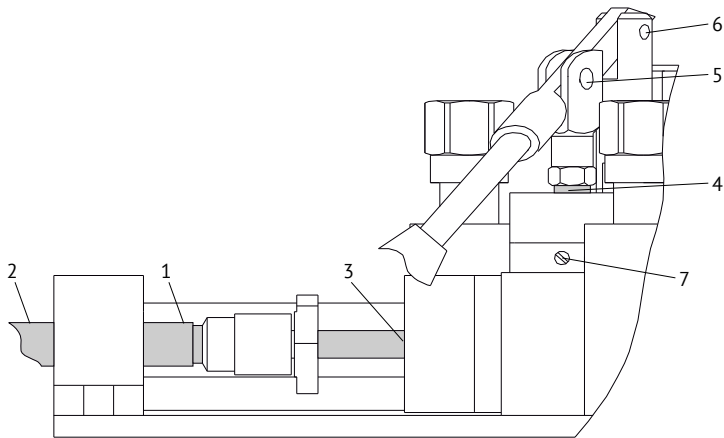

Fig. 4 Preparing to operation
6.6 Loosen the screw 7 (Fig. 4) by ½ turn. Slowly operate manual pump until air stops bleeding from under the screw 7. Tighten the screw 7 with a small torque.
8.2 Daily maintenance includes visual inspection and cleaning from dust and dirt with dry clean cloth. Check the presence of working fluid on the surface of stems 3 and 4, and grease on the surface of screws 1 and 2 and on rotation axes 5 and 6 (Fig.4). In case of no or insufficient amount of working fluid or grease on these elements respectively, lubricate the surfaces of screws 1 and 2, and axes 5 and 6 with grease LITOL-24 GOST 21150-87, and apply working fluid to the surfaces of stems 3 and 4.